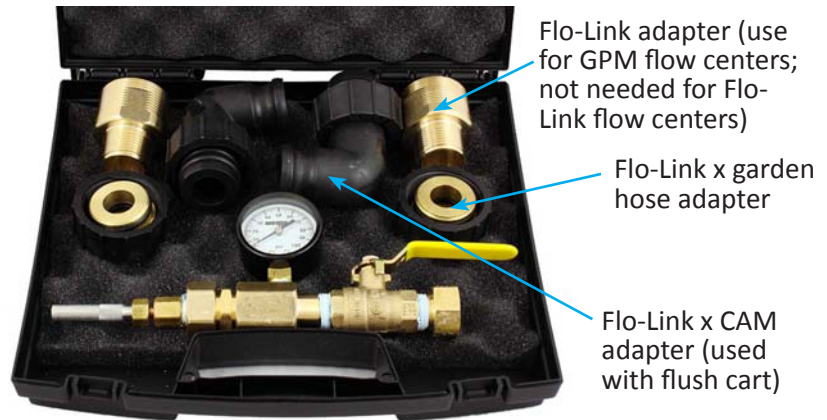

Figure 32: Geo-Flo Flush Kit
8. For GPM series, thread on the Flo-Link adapter (Figures 31 & 32), which provides a union connection and easier installation/removal of the garden hose adapter. This step is not necessary for Flo-Link flow centers. Figure 32 shows the fittings included with the loop flushing kit. This kit provides all of the adapters needed when originally flushing the loop, as well as the fittings needed when replacing a pump.